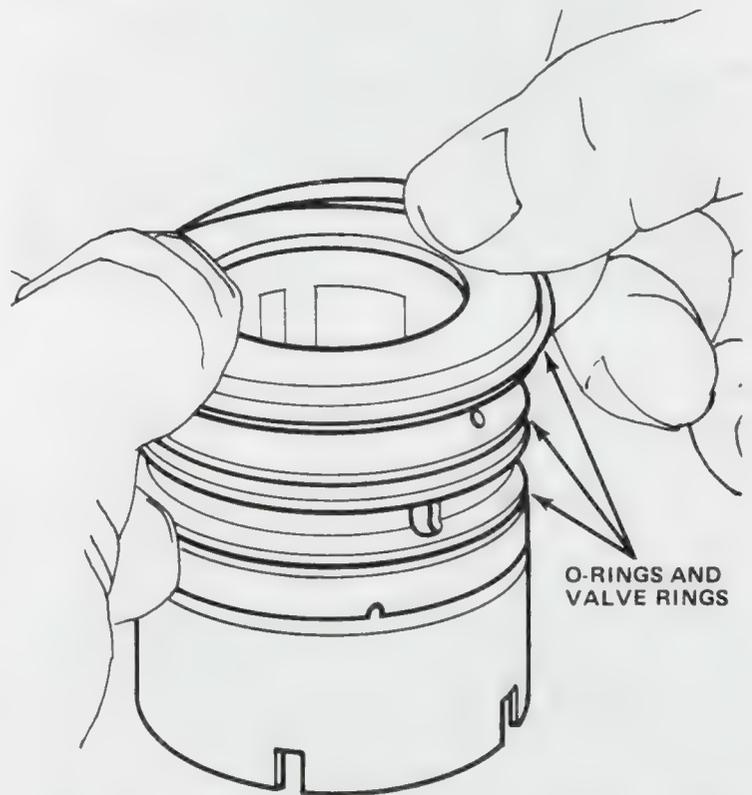

Fig. 2K-27 Installing Backup O-Rings and Teflon Rings
(6) Install stub shaft assembly carefully into spool valve until stub shaft locating pin is aligned with spool valve locating hole (fig. 2K-24).